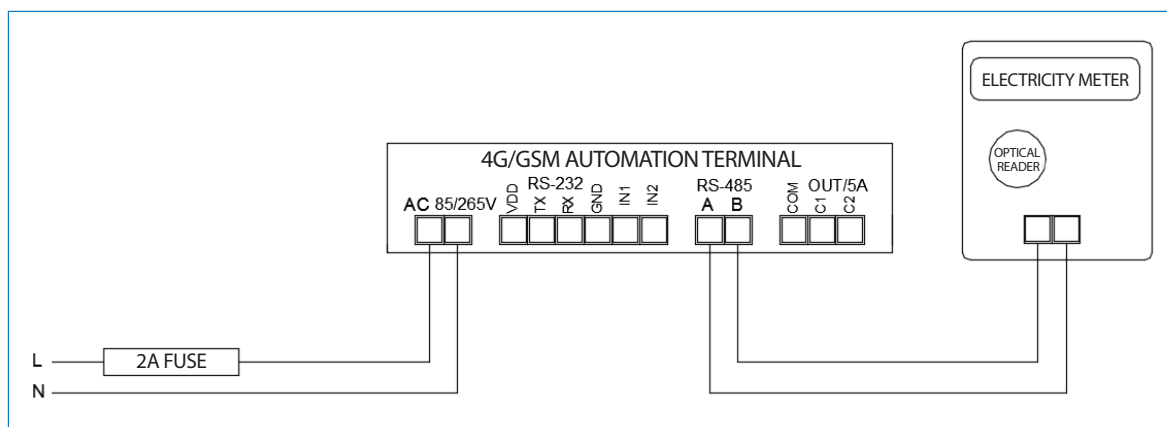

Figure 3.3
- b. Electric Meter / RS-232: (Figure 3.3)